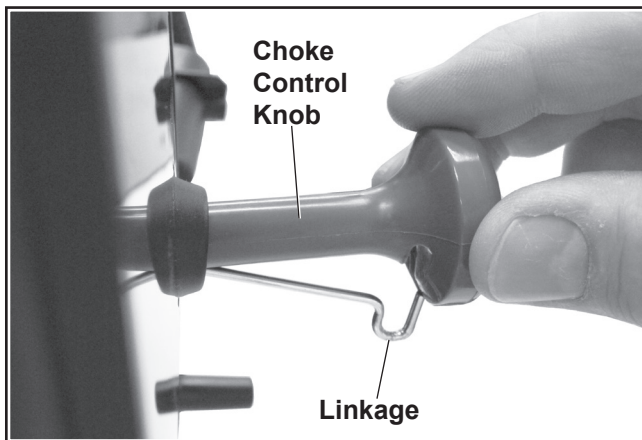

Figure 4. Remove Choke Knob.
1. Pull the choke control knob out. Pry the linkage out from underneath the knob and lift the knob off the linkage and remove from the engine cover. See Figure 4.